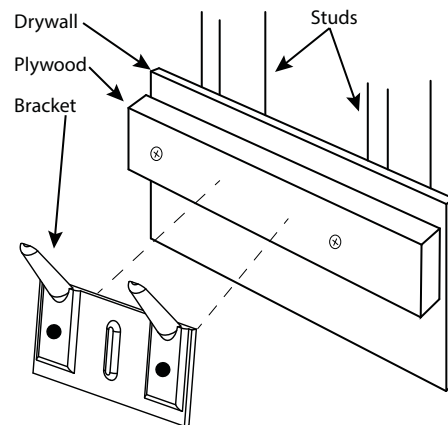

Figure 9 - Mounting for Drywall
- 3 Cut two sections of 1/2" (1.3cm) plywood or equivalent material 3" (7.6cm) in height. The length of each section should be sufficient to span the width of the wall studs (see Figure 9).
- 4 Use appropriately sized nails or wood screws to attach the two wall supports to the wall as shown in Figure 9.